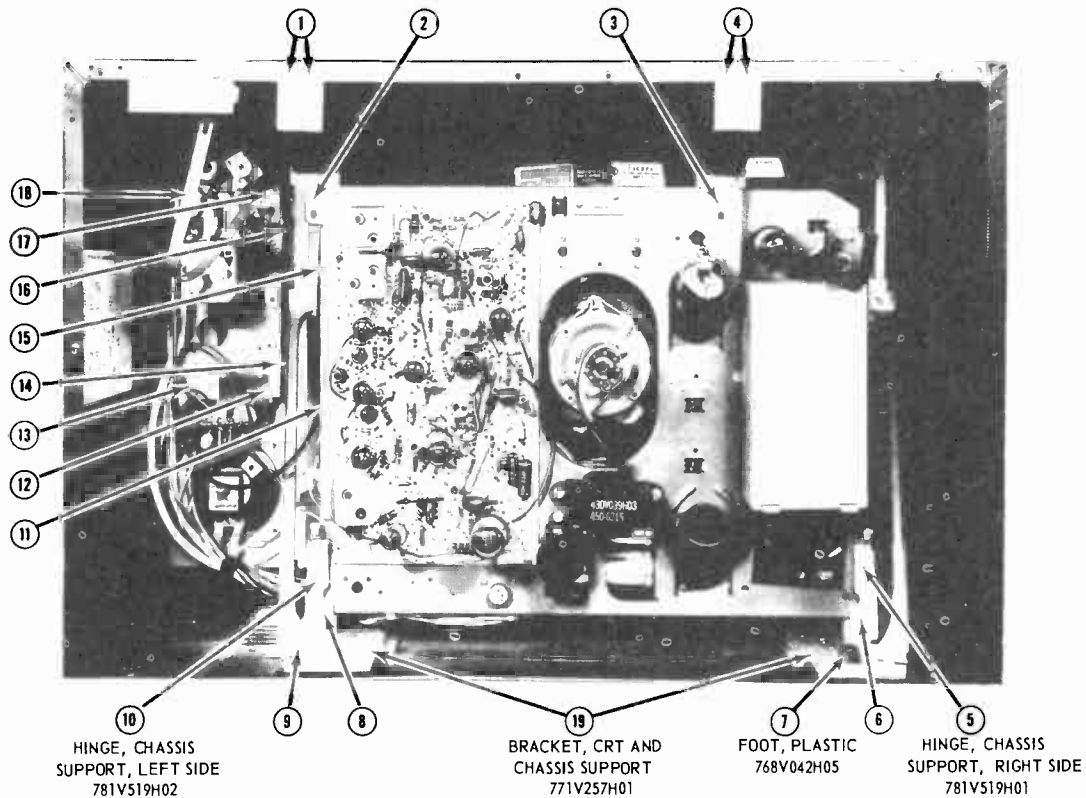

Figure 1 - Rear View of Chassis Showing Location of Screws for Chassis Removal.
**PC BOARD ACCESSIBILITY & SERVICING (Refer to Fig. 1) Screw Location for Chassis Removal**